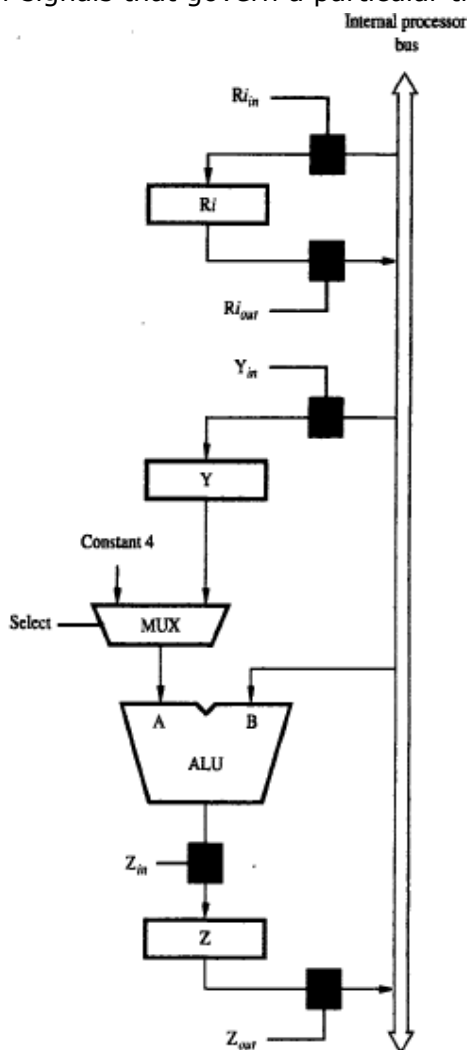

Figure 7.2 Input and output gating for the registers in Figure 7.1.
- 1) Enable the output of registers R1 by setting  $R1_{out}$  to 1 (Figure 7.2).